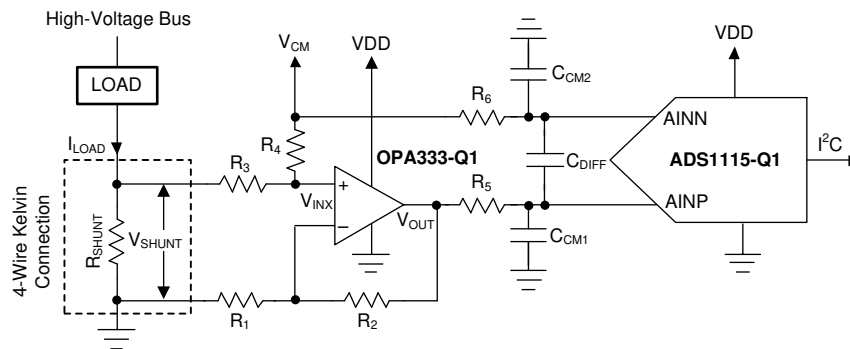

图 9-6. Low-Side Current Shunt Monitoring
Shunt-based, current-measurement solutions are widely used to monitor load currents. Low-side, current-shunt measurements are independent of the bus voltage because the shunt common-mode voltage is near ground. Figure 9-6 shows an example circuit for a bidirectional, low-side, current-shunt measurement system. The load current is determined by measuring the voltage across the shunt resistor that is amplified and level-shifted by a low-drift operational amplifier, OPA333-Q1. The OPA333-Q1 output voltage is digitized with ADS1115-Q1 and sent to the microcontroller using the I²C interface. This circuit is capable of measuring bidirectional currents flowing through the shunt resistor with great accuracy and precision.
1. To level-shift the ground-referenced signal to allow bidirectional current measurements while running off a unipolar supply. The voltage across the shunt resistor, V_{SHUNT} , is level-shifted by a common-mode voltage, V_{CM} , as shown in 图 9-6. The level-shifted voltage, V_{INX} , at the noninverting input is given by 方程式 5.
A shunt resistor (R_{SHUNT}) is an accurate resistance inserted in series with the load as shown in 图 9-6. If the absolute voltage drop across the shunt, $|V_{SHUNT}|$, is a larger percentage of the bus voltage, the voltage drop can reduce the overall efficiency and system performance. If $|V_{SHUNT}|$ is too low, measuring the small voltage drop requires careful design attention and proper selection of the ADC, operation amplifier, and precision resistors. Make sure that the absolute voltage at the shunt terminals does not result in violation of the input common-mode voltage range requirements of the operational amplifier. The power dissipation on the shunt resistor increases the temperature because of the current flowing through the resistor. To minimize the measurement errors resulting from variation in temperature, select a low-drift shunt resistor. To minimize the measurement gain error, select a shunt resistor with low tolerance value. To remove the errors caused by stray ground resistance, use a four-wire Kelvin-connected shunt resistor, as shown in 图 9-6.